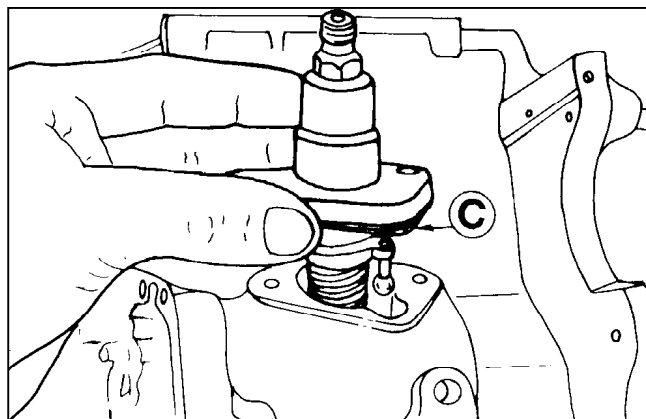

Figure 18
- ❖ Take care in removing the fuel pump (figure 25, #24) as the control delivery device will be engaged to the yoke lever (see figure 18).
- ❖ Take care that the fuel pump spacer (figure 18, #C) is not dropped into the oil sump during the removal of the fuel pump (figure 25, #24). If the oil spaces falls into the oil sump, injection pump (figure 25, #24) will be impaired.